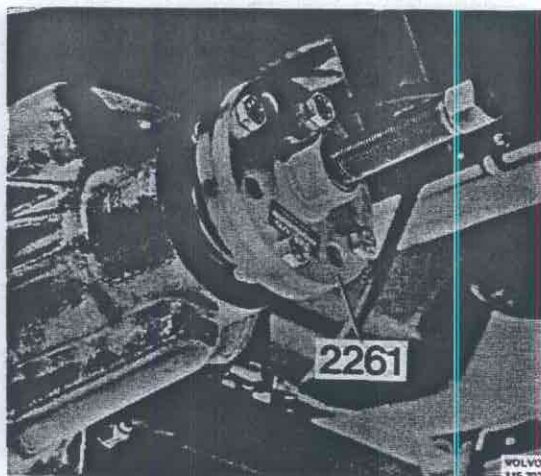

Fig. 46-15. Removing the flange
3. Fit puller 2261, Fig. 46-15, and pull off the flange.